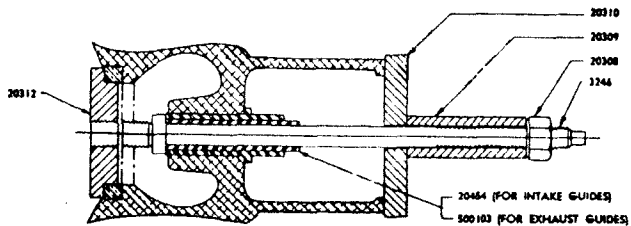

Figure 65 — Valve Guide Puller and Inserter — Tool No. A3373
(1) Install cylinder on holding plate, tool No. A4116.
(2) To pull the valve guide proceed as follows: (See figures 65 and 66.) Install the valve guide puller and inserter screw through the valve guide with the screw head on the inside of the cylinder. Install the intake bushing (part No. 20454) or exhaust bushing (part No. 500-103) over the screw and in the inside diameter of the valve guide. Install the valve guide puller plate, tool No. 20310, over the puller screw and rest it against the rocker box parting flange. Install the valve guide puller and inserter spacer (part No. 20309) on the screw and apply nut (part No. 20308). Heat should be applied carefully to the cylinder head, bringing the temperature up to approximately 93.3° C. (200° F.). Operate the nut, (part No. 20308) and pull the guide (See figure 65 for illustrated diagram of tool set-up).
(3) To install a valve guide, proceed as follows: Screw the valve guide inserter disk nut (part No. 20312) on the screw (part No. 3247). Place the intake or exhaust valve guide bushing on the screw (part No. 3246). Insert the assembly through the valve guide boss hole with the disk nut resting against the valve seat. The cylinder head should be heated carefully as directed in the preceding paragraph. The valve guide should be chilled in a solution of commercial dry ice and alcohol or in a pan of alcohol placed in an electric refrigerator. Immediately preceding installation, the outside diameter of the guide should be thinly coated with petrolatum. Place the new valve guide on the puller and inserter screw and slide it down over its bushing. Install the valve guide puller and inserter spacer (part No. 20309) on the screw and apply the nut. Turn the valve guide puller and inserter nut, forcing the valve guide into the cylinder head.